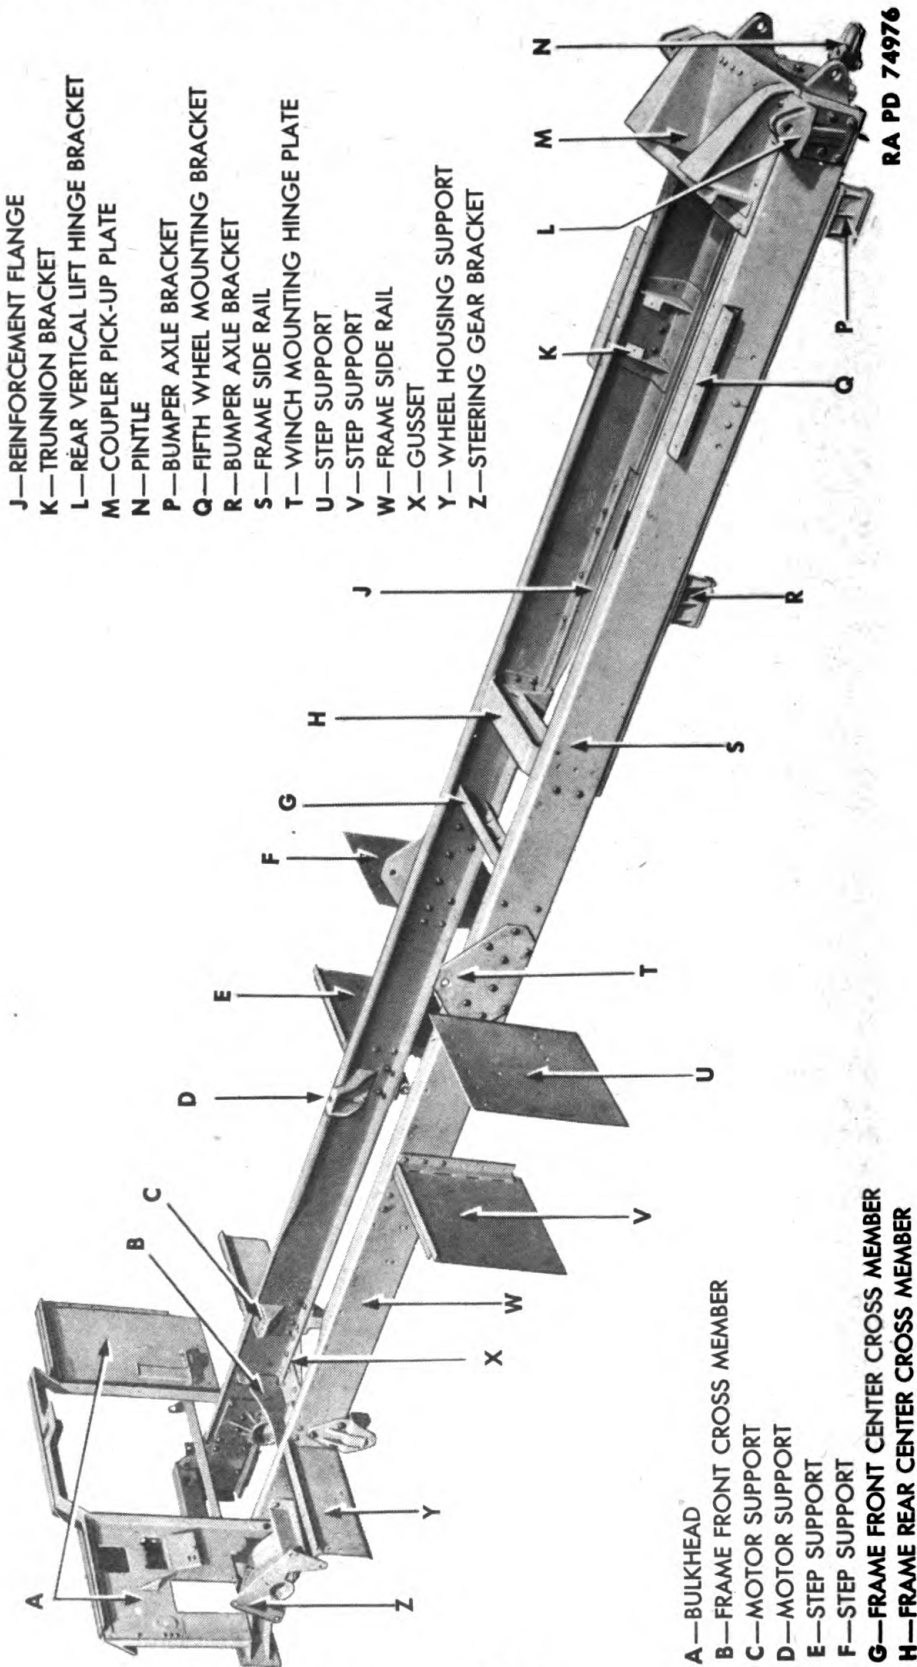

Figure 84 — Frame Assembly — Left Rear Three-quarter View
a. **Disassembly.** The cross members and gussets of the frame are riveted and can be removed for replacement by cutting the rivets. The brackets are bolted to the frame and can be removed for replacement by removing the bolts, nuts, and lock washers (fig. 84).